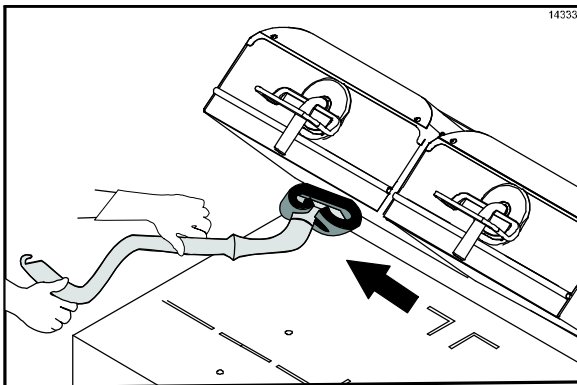

Figure 86
23. Scrub the platen surfaces, starting from the right platen to the left platen. (See Figure 86.)